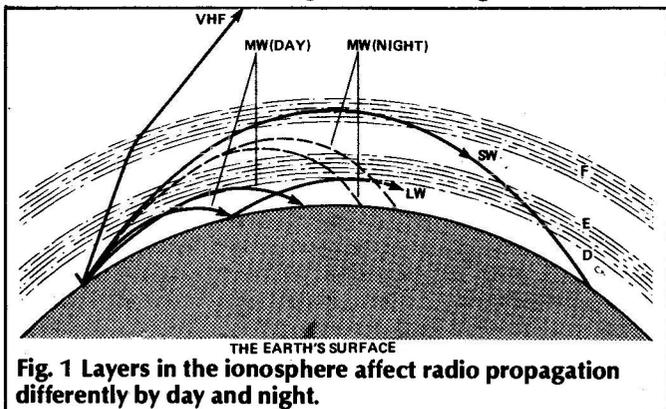

Fig. 1 Layers in the ionosphere affect radio propagation differently by day and night.
**Fig. 1** Electrical and mechanical arrangement of a typical 4 x 12" angle-fronted guitar loudspeaker cabinet. The drive units would normally be rated at 30W each, giving 100W total safe handling and an efficiency of around 98dB/W at one metre.
This is a group of three diffuse layers of ionized gases which surround the earth, and which bend the paths of radio signals (Fig. 1). The ionization occurs partly as a result of high intensity UV and X-rays emitted by the sun. The rays do not affect that part of the earth's atmosphere in shadow, during the hours of darkness.